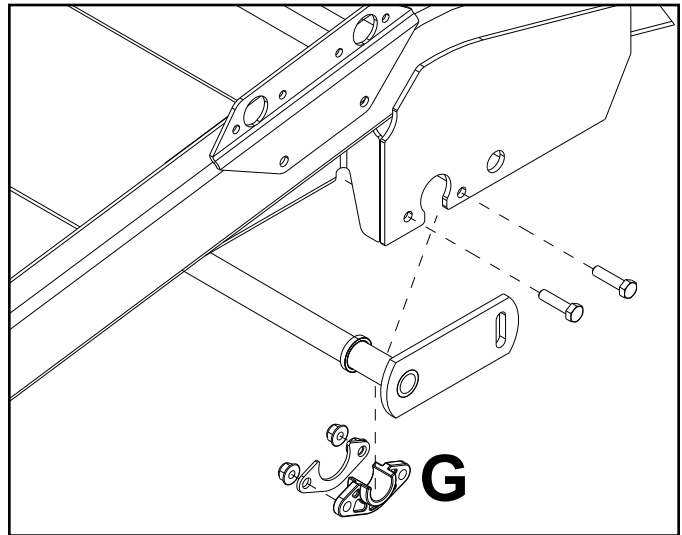

Fig. 040
2. Install the (4) pivot bushings (G), (4) gusset plates and (8) fasteners that secure the pivot rods to the frame. Torque the (8) fasteners to specification – 5 ft-lbs. (7 Nm) (Fig. 040).